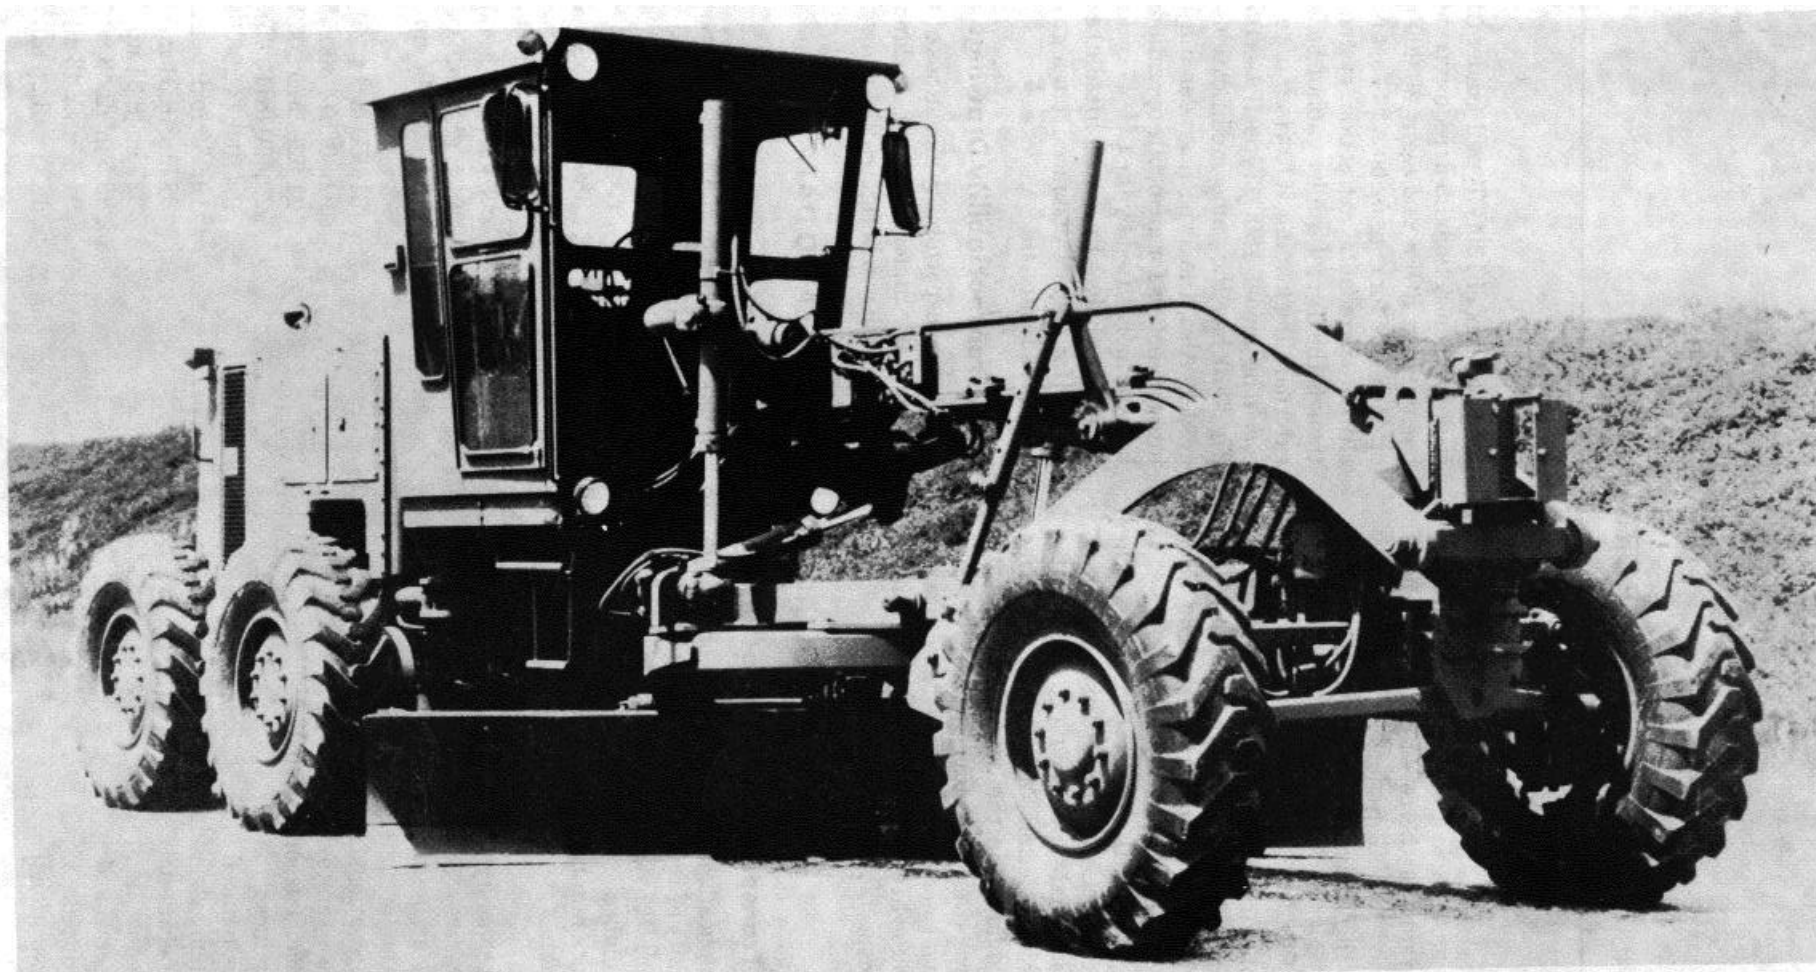

Figure 2-1. Model 130G MIL grader.
b. The model 130G MIL grader (fig 2-1) is the standard production Caterpillar. This grader is equipped with a sound-suppressed cab that meets OSHA standards. The letters MIL, which are given after the model number on the data plate, indicates that the cab or roll-over-protection system (ROPS) is removable and that tiedowns, lift points, and forward positioned hydraulic-lift cylinder auxiliary trunions are added for transportability purposes.